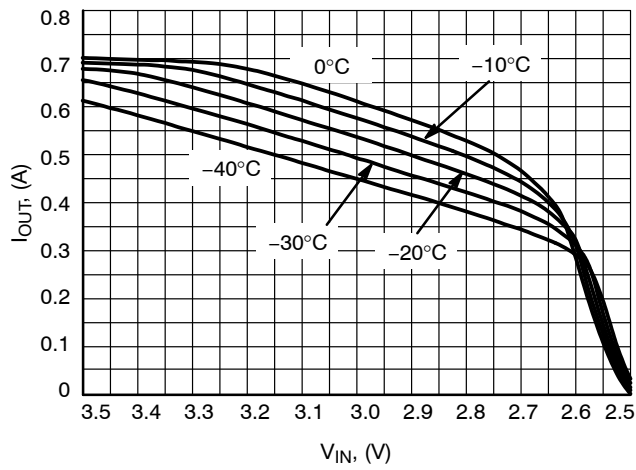

Figure 8. Output Current Capability when set at 2.5 V V_{out}
- For output current capability for $T_J < 0^\circ\text{C}$, please refer to Figure 8.